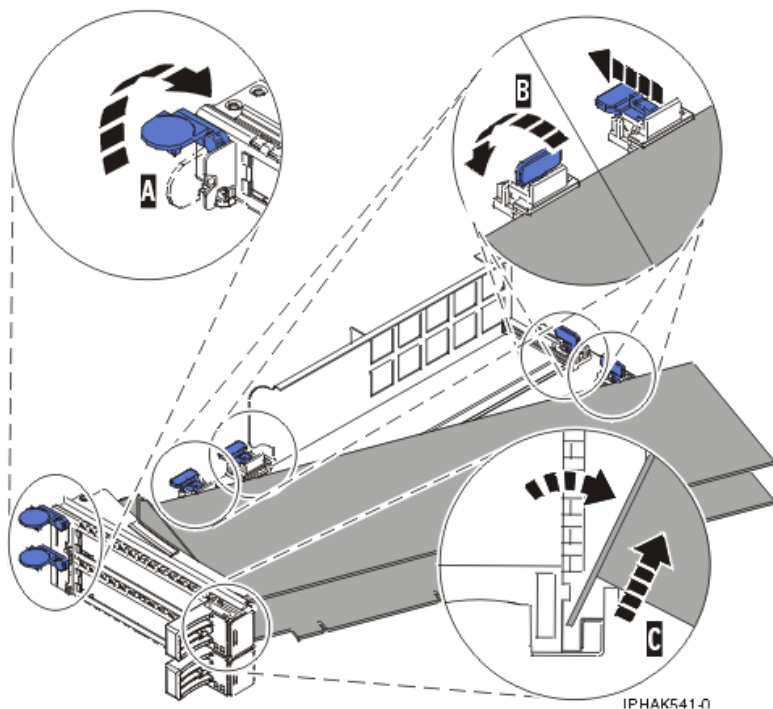
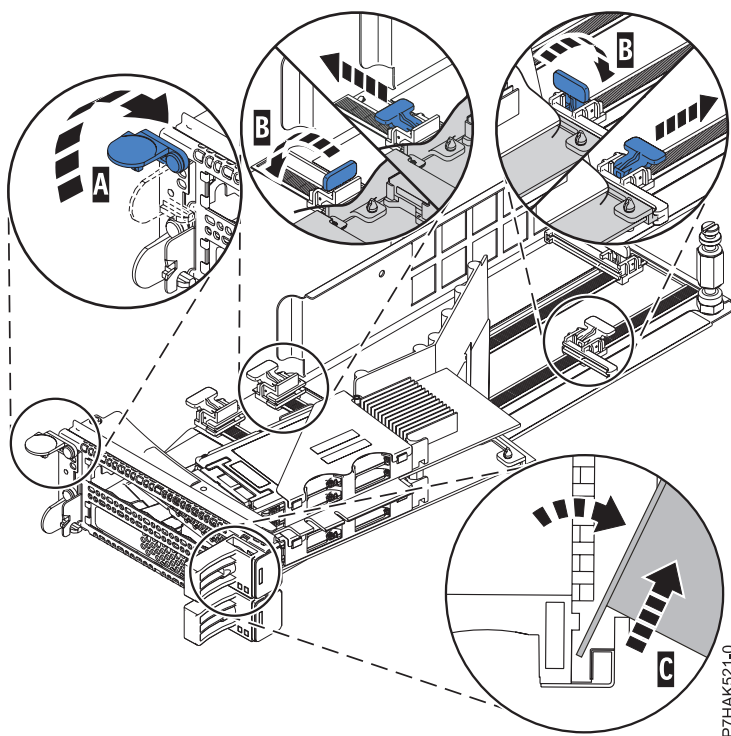

Figure 150. Adapter removed from the PCI adapter cassette
Figure 151. PCIe RAID and SSD SAS adapter removed from the PCI adapter cassette
- d. Unscrew pivot pin (C) and put it in a safe place
- a. Unlock the adapter retainers (B) by rotating the retainer clips (A) into the horizontal position. See Figure 150 on page 171. If you are removing a PCIe RAID and SSD SAS adapter, see Figure 151 on page 171.